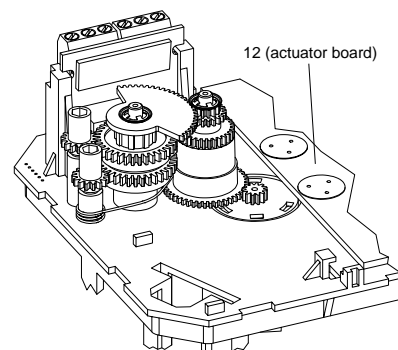

Fig. 27: Inside view · Type 3374 Actuator with limit contacts
- Actuators with limit contacts: see Fig. 27.